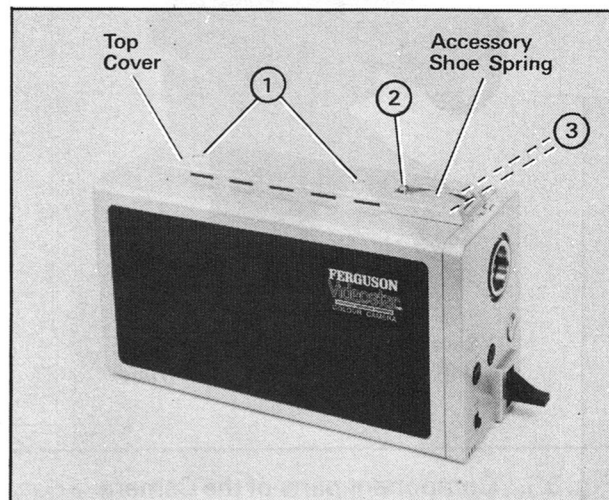

Fig 3.5 Camera Body Top
- (1) Remove the two screws ① shown in Figure 3.5
- (2) Remove the screw ② on the accessory shoe shown in Figure 3.5 to remove the accessory shoe spring